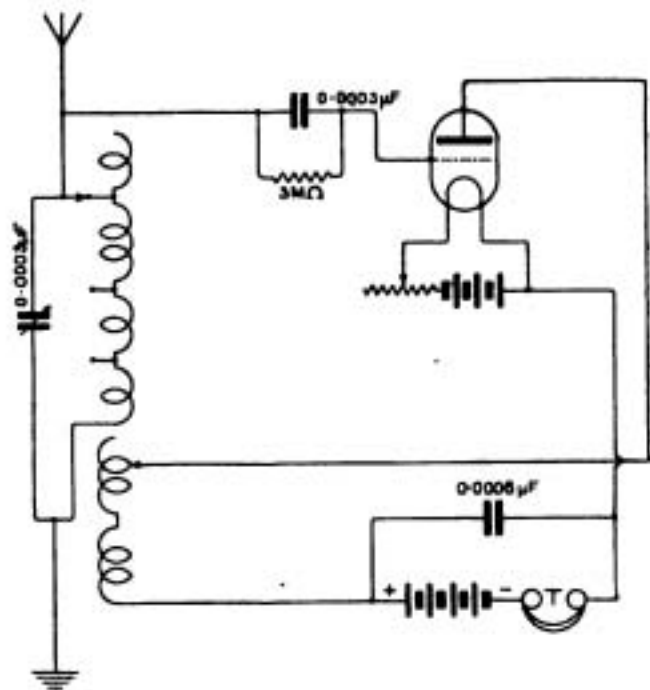

Fig. 4.
A.A.D. (Southend-on-Sea) asks (1) For a diagram of a single valve receiver, using certain specified apparatus. (2) Is a telephone transformer necessary. If so, what ratio. (3) Is the aerial measured from spreader to spreader. (4) What is the best way to use slabs efficiently.
(1) Connect up as in Fig. 4.
(2) Not for 8,000 ohm telephones. It is better to use L.R. 120 ohm telephones and telephone transformer for valve sets.
(3) From the far end of the spreader to the bottom of the down lead for a single wire. With a twin wire aerial both wires are counted in the P.O. estimation of length.
(4) Entirely disconnect the slabs which are not actually in use.